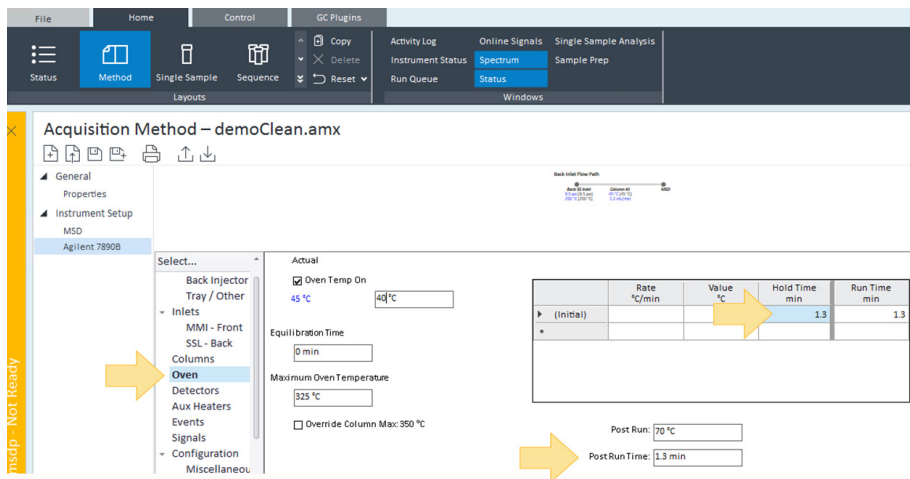

Figure 13. Hold Time and Post Run Time settings
- 5 Select **Instrument Setup > GC > Oven** and modify the **Hold Time** and **Post Run Time** to correspond with those set in the MSD JetClean Cleaning window (1.3 minutes in the example shown in Figure 13).